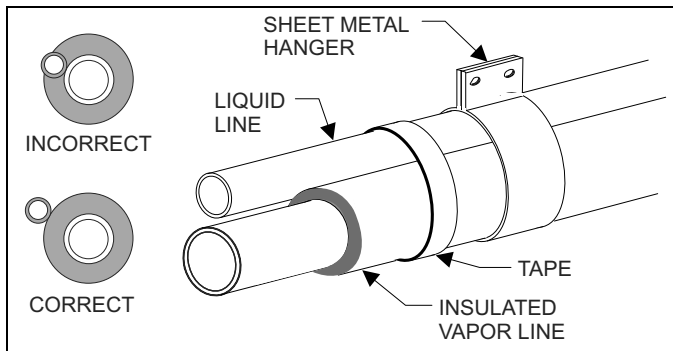

FIGURE 2: Tubing Hanger
5. Tape and suspend the refrigerant lines as shown. DO NOT allow tube metal-to-metal contact. See Figure 2 "Tubing Hanger".